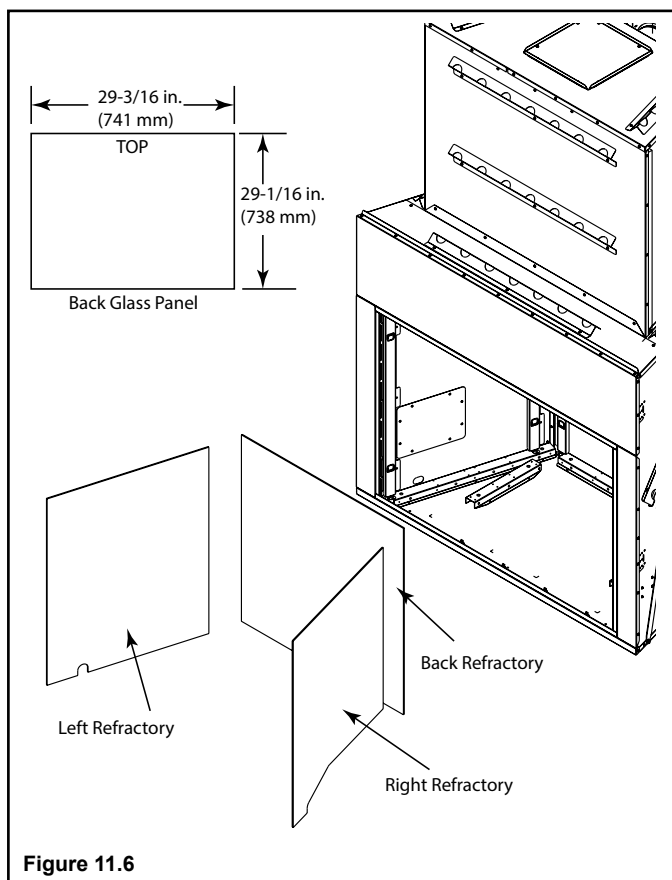

Figure 11.6
- Bend up (2) lower retaining tabs on right refractory brackets, set the right glass panel on right brackets, bend down (2) upper retaining tabs to secure glass panel in place. See Figures 11.6 & 11.7.